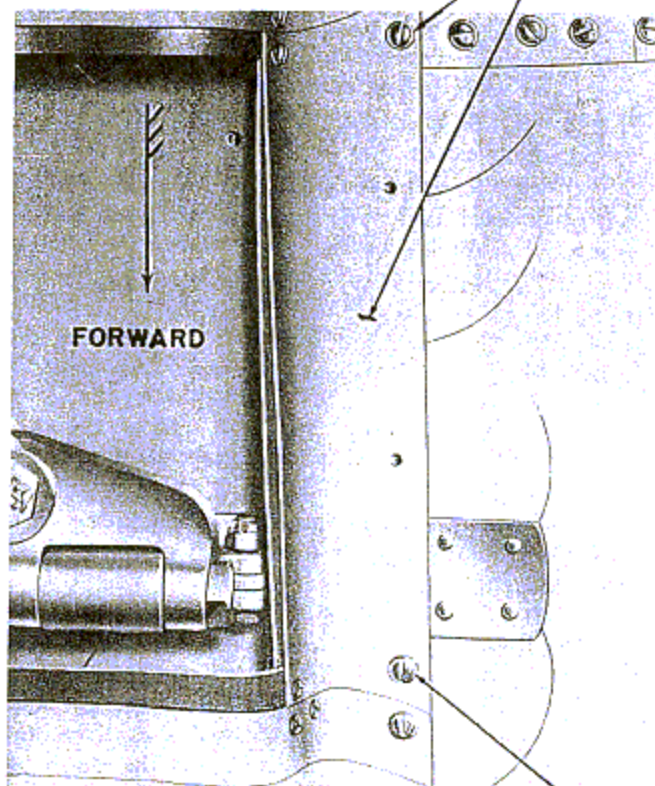
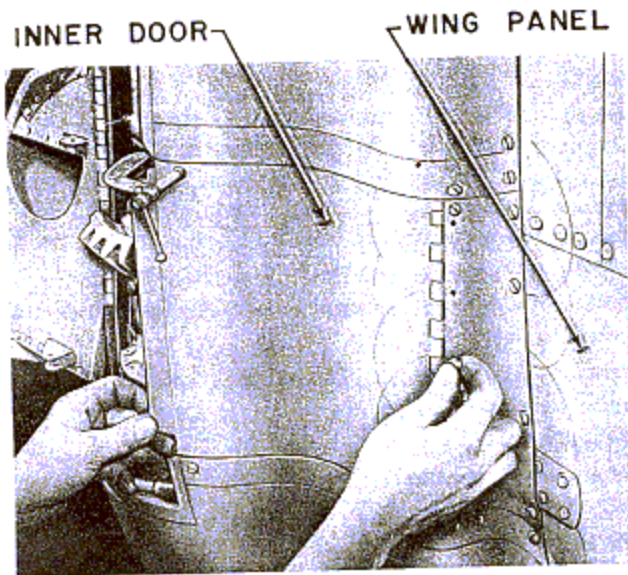

Figure 132—Installation of Landing Gear Fairing—
Figure 133—Installation of Landing Gear Fairing—
c. Figure 132 indicates how to install the inboard door fairing to which is attached the door as shown in figure 133.